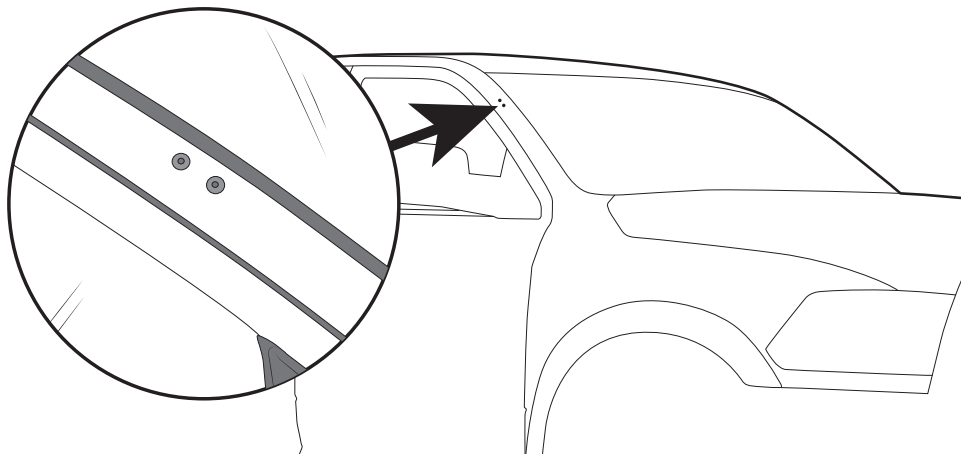

Figure 21
9. Install rubber well-nuts by inserting into the 1/2" hole (Fig. 21).